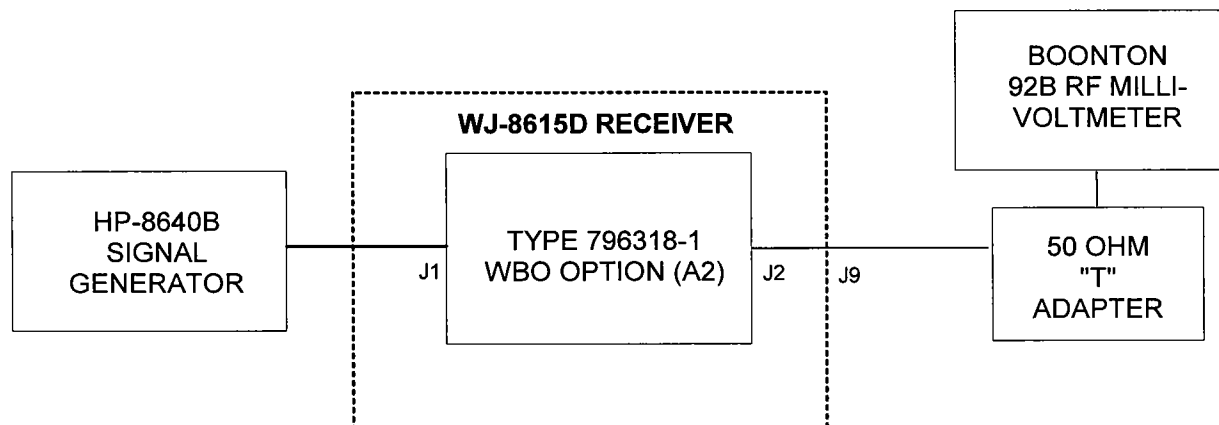

Figure E-1. WBO Option (A2) Alignment Test, Equipment Connections
1. Connect the test equipment as illustrated in **Figure E-1**.